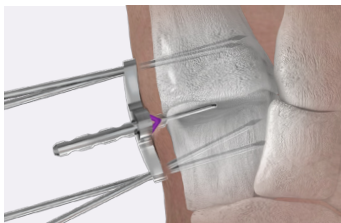

Figure 1
- ▶ The Burr Guide and Paddle allow the surgeon to locate the joint such that the orientation is aligned properly prior to burring (Figure 1)